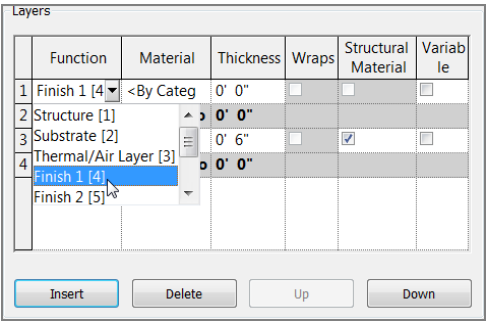

FIGURE 6.22: Choosing a layer function
3. The new layer is added. The field is now divided into columns. The first column is Function, which is currently set to Structure. This cell is a drop box containing the other available functions. Click the drop-box arrow, and select Finish 1 [4] (see Figure 6.22).